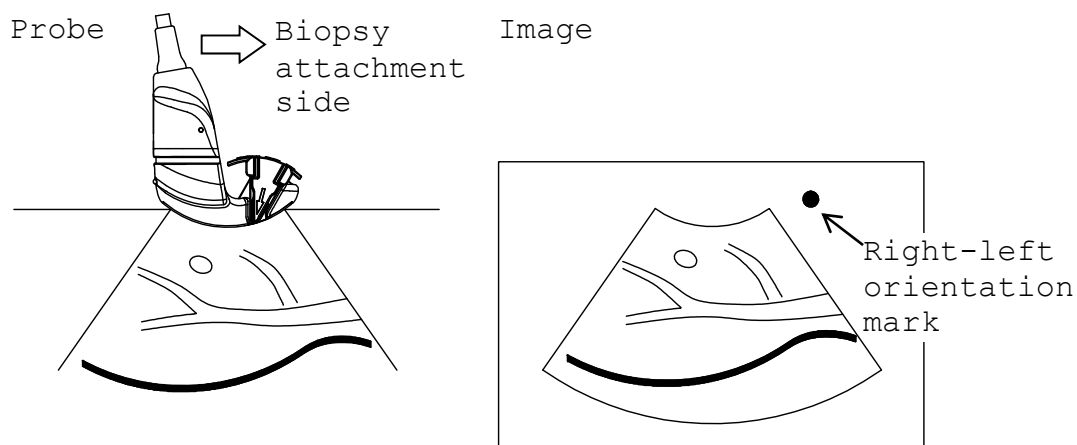

Fig.16 Relationship between direction of the probe and the right-left orientation Mark
- 14) Relationship between direction of the probe and the image is shown in Fig.16. The right-left orientation mark on the image indicates the direction of the biopsy attachment side on the probe.